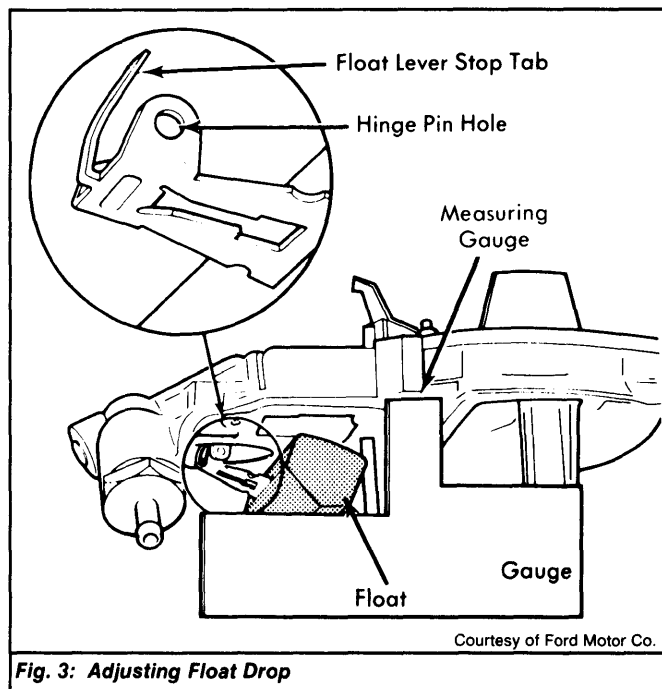

Fig. 3: Adjusting Float Drop
1) With upper body removed, hold in upright position and allow floats to hang by their own weight. See Fig. 3.